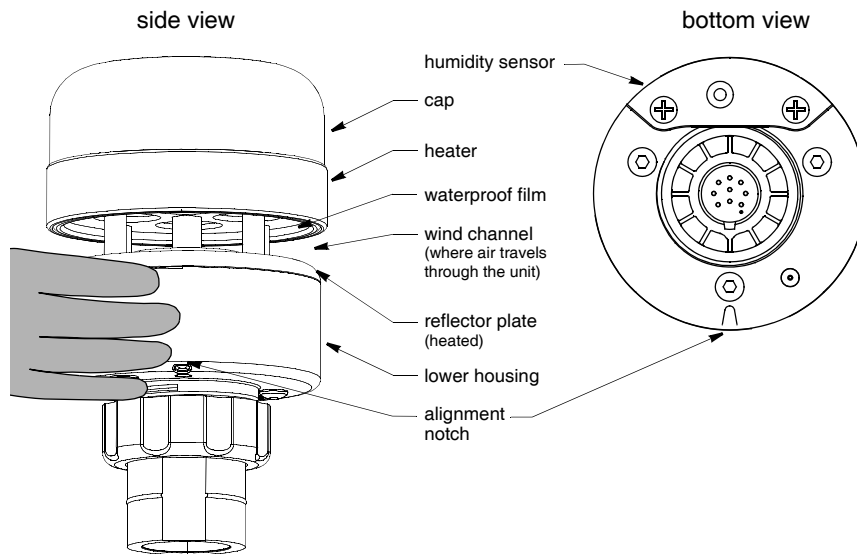

Figure 3. WeatherStation Instrument with heater (120/220WXH shown)
## Installing (Figure 3)
4. To accurately measure the wind direction, be sure to orient the alignment notch correctly. Grasp the *lower housing* of the WeatherStation Instrument below the reflector plate and hold it in the proper position (Figure 3).